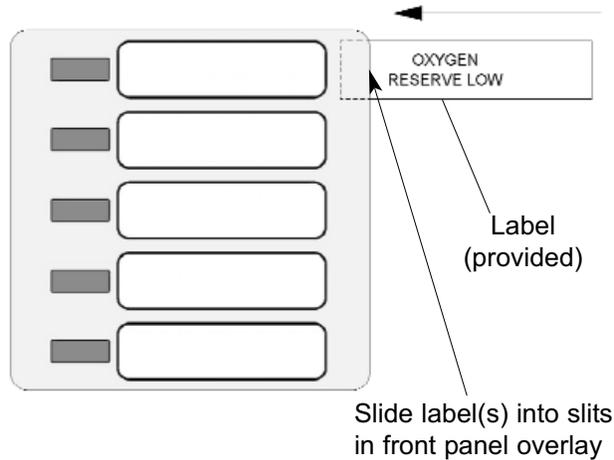

Figure 38: Multi-Signal Front Panel Labeling
1. Slide system status labels into pockets in front of multi-signal module (Figure 38).